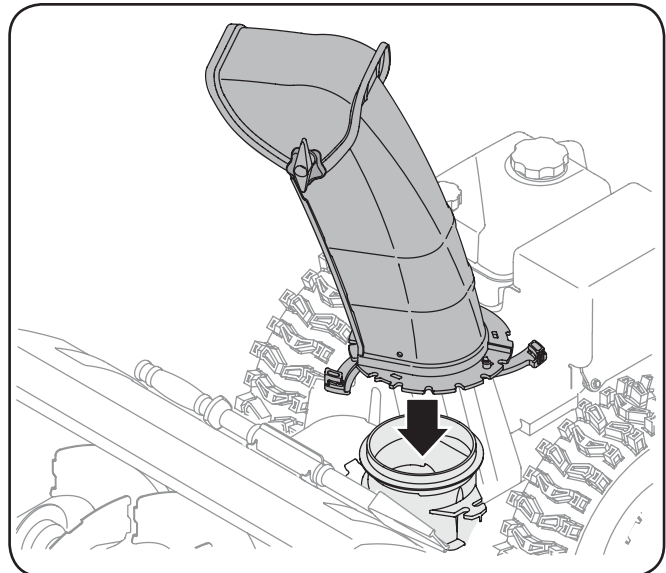

Figure 3-3
1. Position the chute assembly over the base. See Fig. 3-3.
8. Finish securing chute control head to chute support bracket with wing nut, clevis pin, and bow-tie cotter pin removed in step 1. See Fig. 3-3.